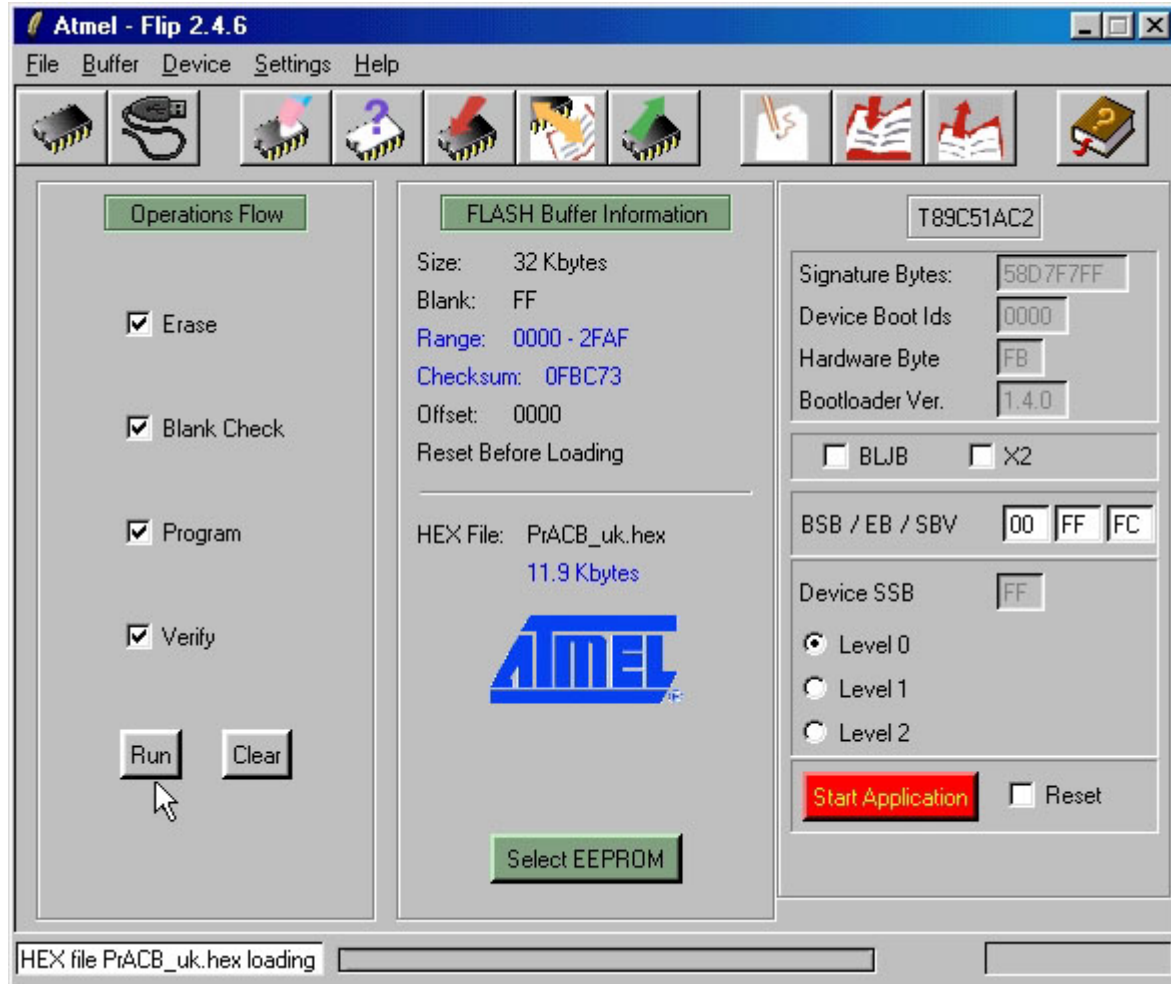

FIGURE 22: FLIP SETTINGS WINDOWS (3 OF 3)
- C11) Select all the check boxes in the frame *Operations Flow* as in figure 22, in order to let **FLIP** execute in sequence the four operations: erase, blank check, program and verify.
- C12) At this point make sure that main windows of **FLIP** looks like figure 22; in details the data in the *Size*:, *BLJB*, *X2*, *Device SSB* and *BSB / EB / SBV* boxes must exactly match.